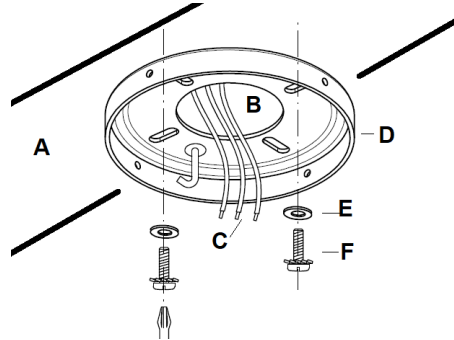

Fig. 5
Pass the power supply wires (C) from the ceiling outlet box (B) through the center of the ceiling mounting bracket (D). Install the ceiling mounting bracket (D) on the outlet box (B) with the mounting screws (F) provided with the outlet box and washers (E) provided with fan. **Fig. 5**